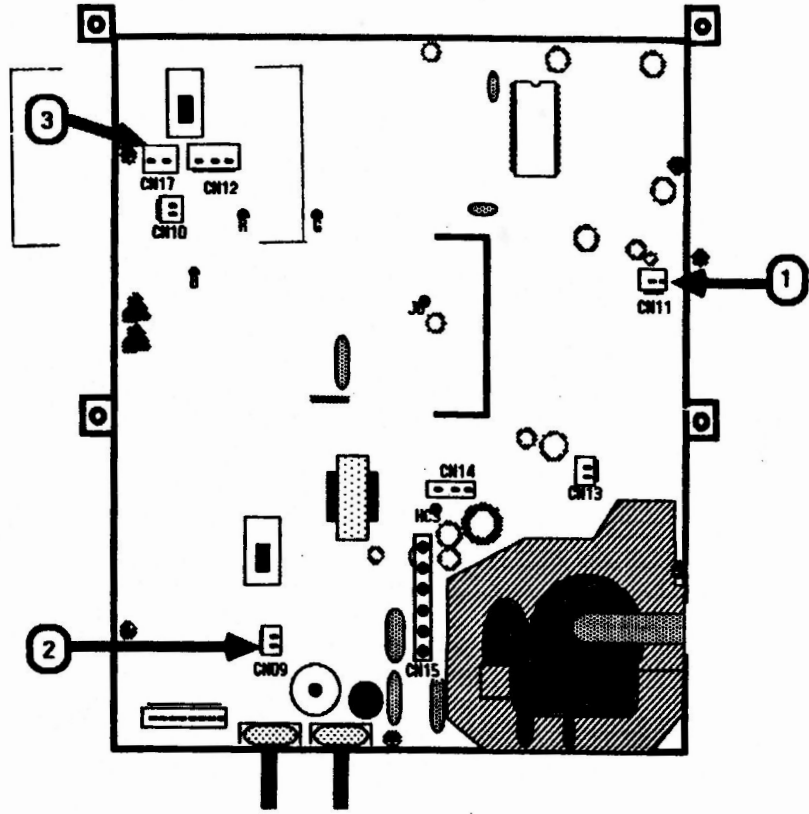

FIGURE 21
**NOTE:** On the AppleColor Monitor 100 Rev. A, CN17 is located on the logic board (Figure 21, #3).
- b) CN11 (logic board) -- Figure 21, #1
- c) CN09 (logic board) -- Figure 21, #2
(On the AppleColor Monitor 100 Rev. A, CN17 connects to the logic board -- Figure 21, #3).